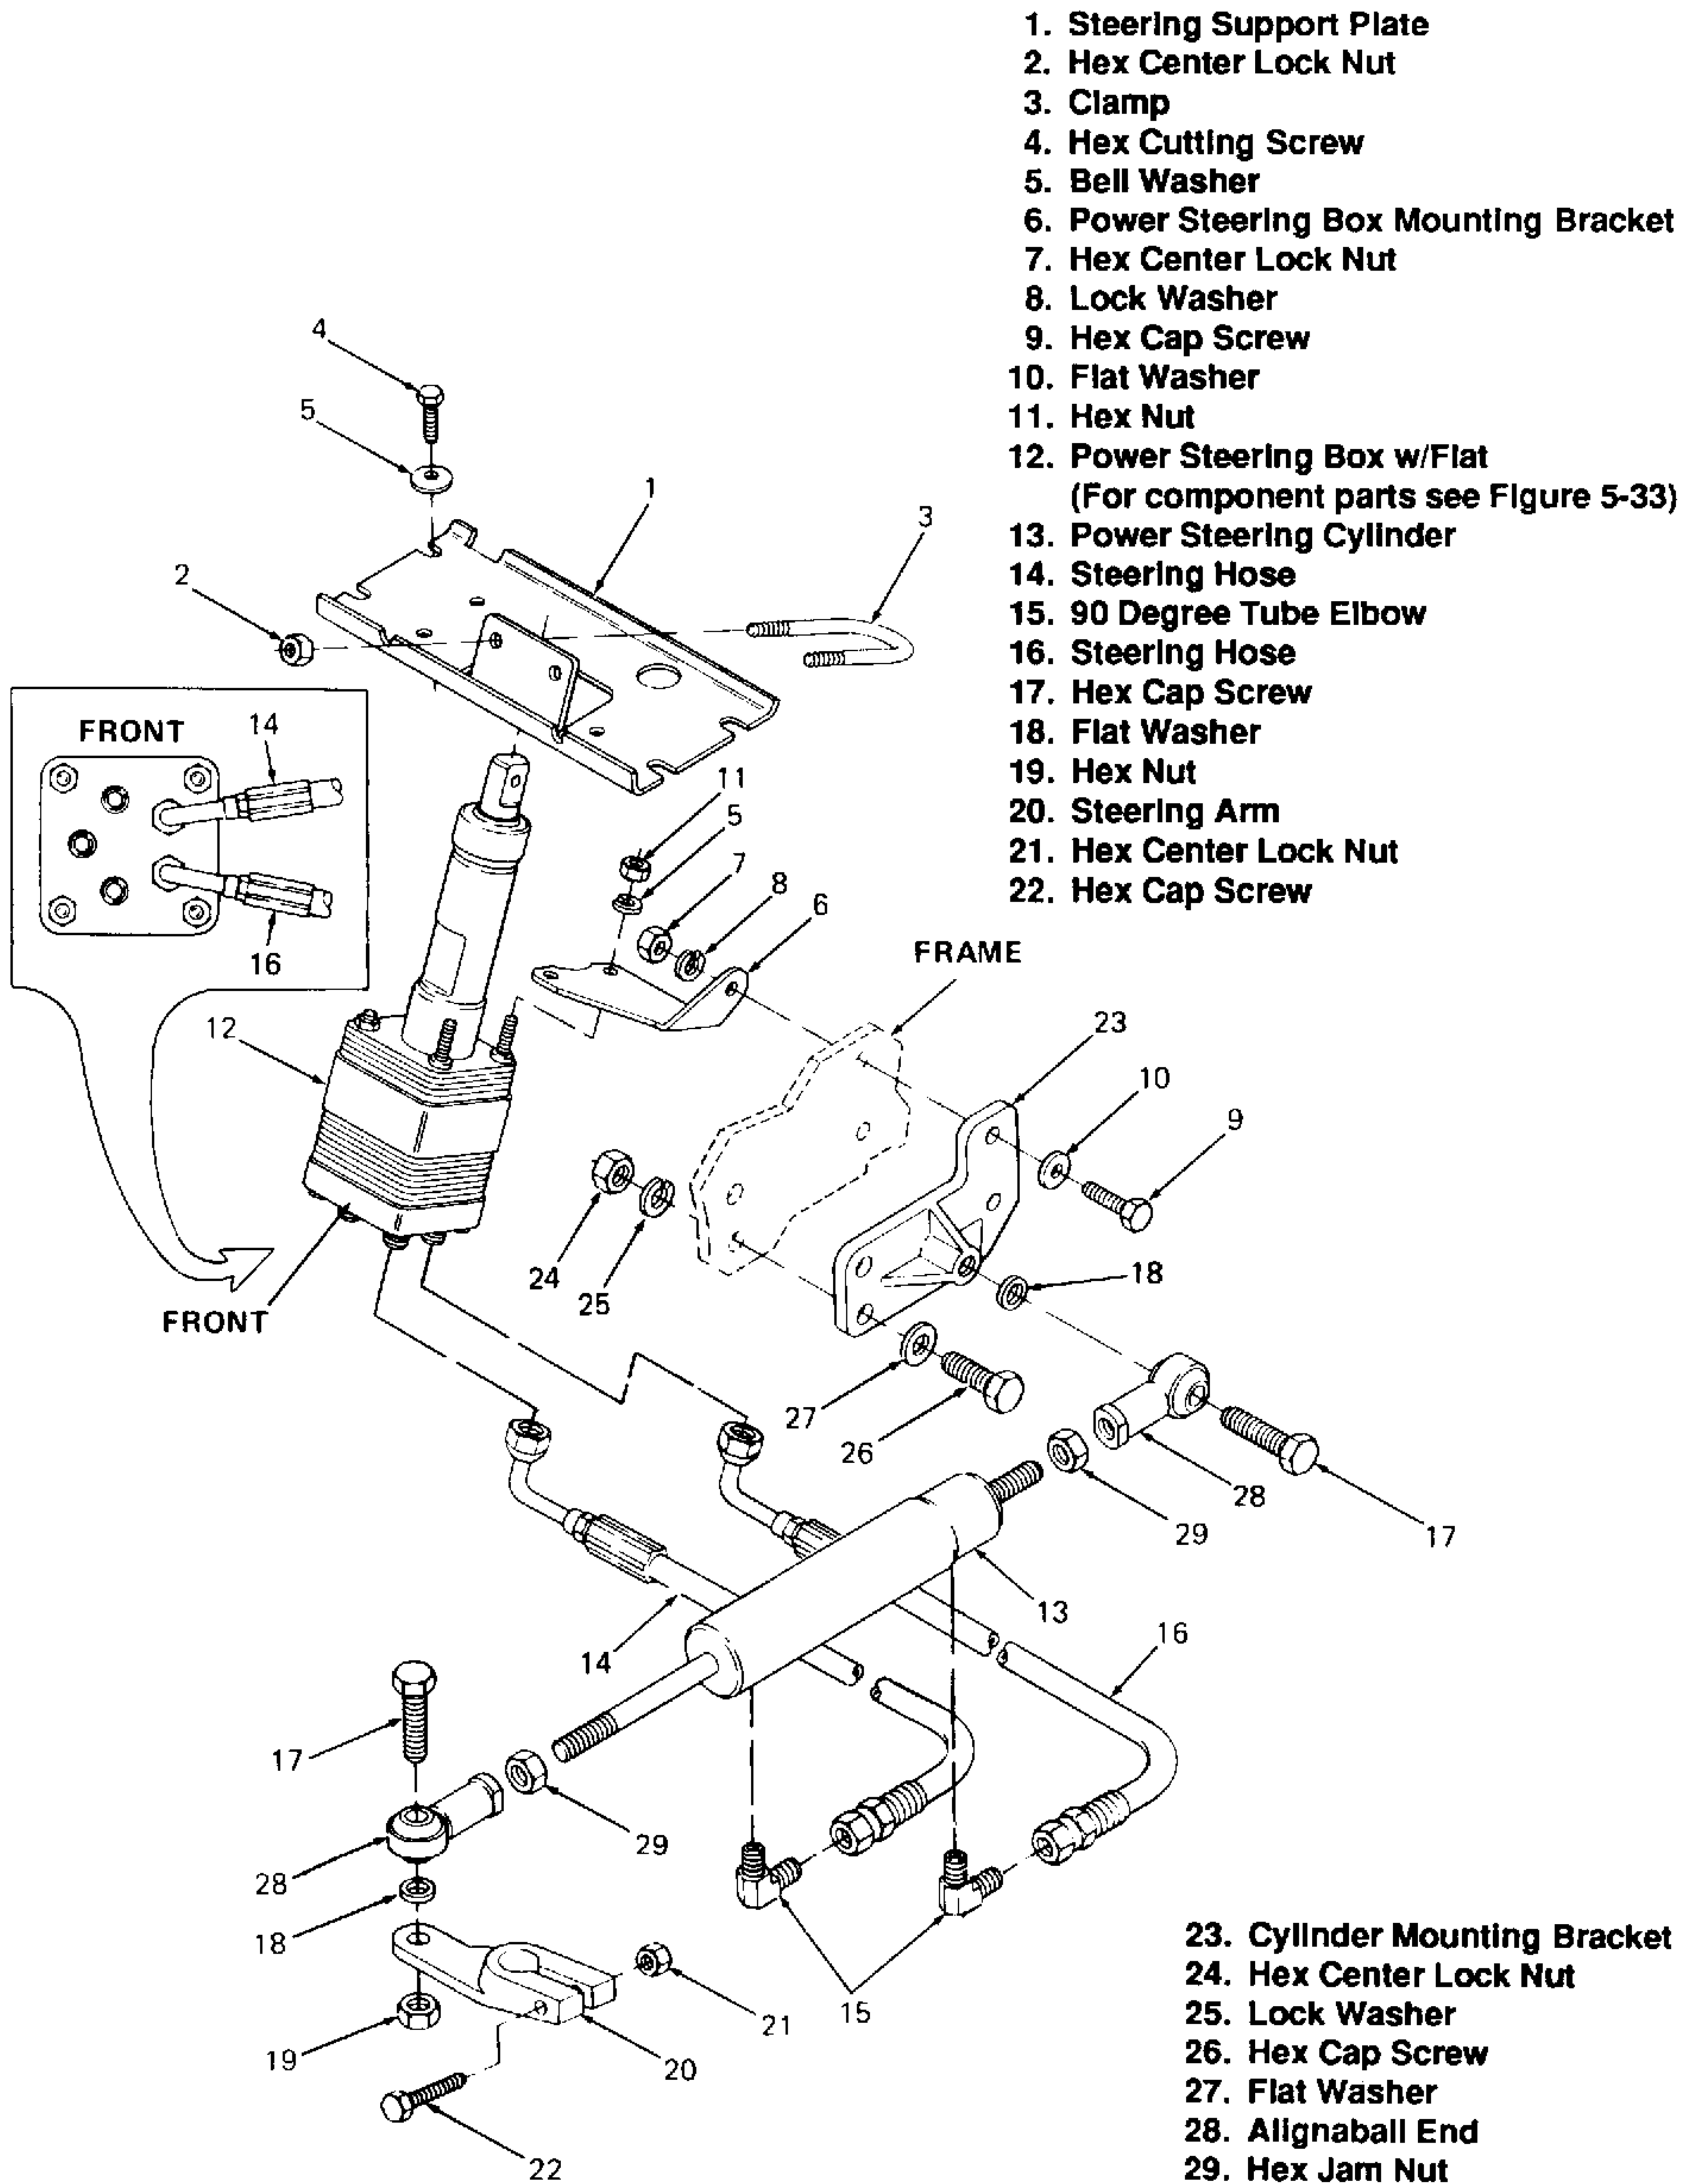

Figure 5-39. Steering Mounting, Power Steering Cylinder and Hydraulic Lines (Models 1782, 1882, 2082 and 2182).
5. Remove steering support plate (1, Figure 5-39) as follows:
- a. Remove hex center lock nut (2) and clamp (3).
- b. Remove hex cutting screws (4) and bell washers (5) and lift out support plate.
6. Remove power steering box mounting bracket (6) as follows:
- a. Remove bracket from frame by removing hex center lock nut (7), lock washer (8), hex cap screw (9) and flat washer (10).
- b. Remove bracket from power steering box (12) by removing hex nut (11) and bell washer (5).
7. Remove power steering cylinder (13) as follows:
- (1) Attach hoses to power steering box (12) by tightening nuts on end of hoses. Refer to Figure 5-39 for proper placement of hoses.
- (2) Attach hoses to power steering cylinder by tightening nuts on end of hoses onto 90 degree tube elbows (15). Refer to Figure 5-39 for proper placement of hoses.
- 4. Install power steering box mounting bracket (6) as follows:
- a. Install bracket onto power steering box (12) with bell washer (5) and hex nut (11).
- b. Install bracket onto frame with flat washer (10), hex cap screw (9), lock washer (8) and hex center lock nut (7).
- 5. Install steering support plate (1) as follows:
- a. Position plate, and secure with bell washers (5) and hex cutting screws (4).
- b. Install clamp (3) and hex center lock nuts (2).